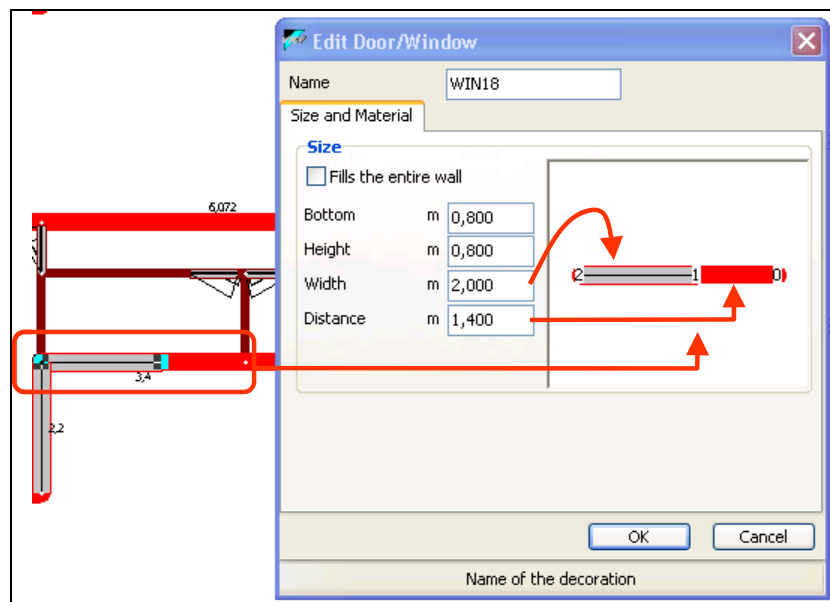
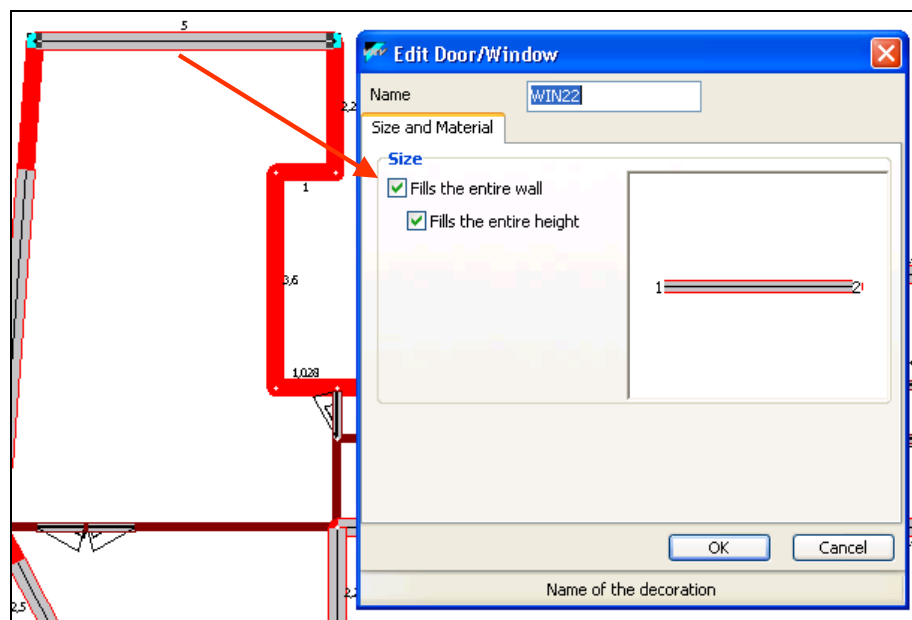

Figure 35: The window editing a window or a door
Figure 36: Creating a glass wall
- This brings up the window to edit a window or a door, as shown in Figure 35.
The window to adapt is on a wall of 3.4m. When changing its width, you may also have to change its distance from the corner point displayed in the window. In the example in Figure 35, the window width has been adapted from the default width of 1.2m to 2.0m. To keep the window at the left, the distance from the corner point 0 (the right end of the wall) also must be changed to 1.4m (as 2.0m window + 1.4m distance = 3.4m wall length).
At the top of the window in Figure 35, a checkmark appears. Checking it will change the window such that it will take the whole wall. Such a window can take the whole wall width, but also its height. You can set the latter with a second checkmark, as shown in Figure 36: